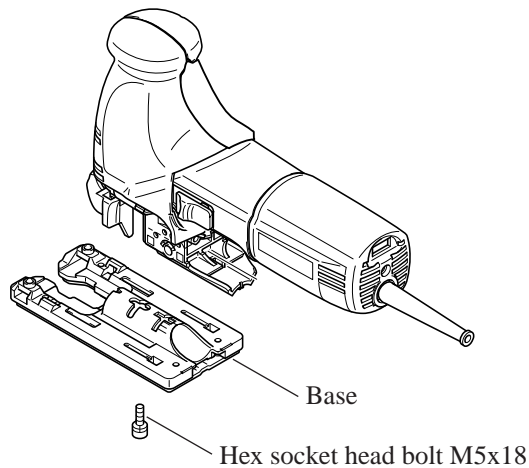

Fig. 1
1. Separate base from the jig saw unit by unscrewing hex socket head bolt M5x18. See Fig. 1.